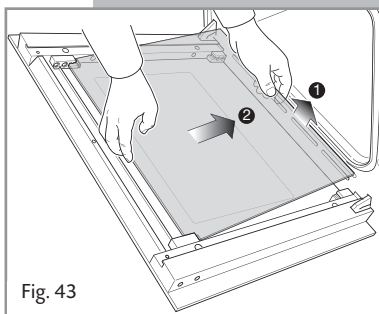

Fig. 43
- Gently lift the bottom edge of the pane (arrow 1 in fig. 43) and remove it by pulling it out from the top clamps (arrow 2 in fig. 43).